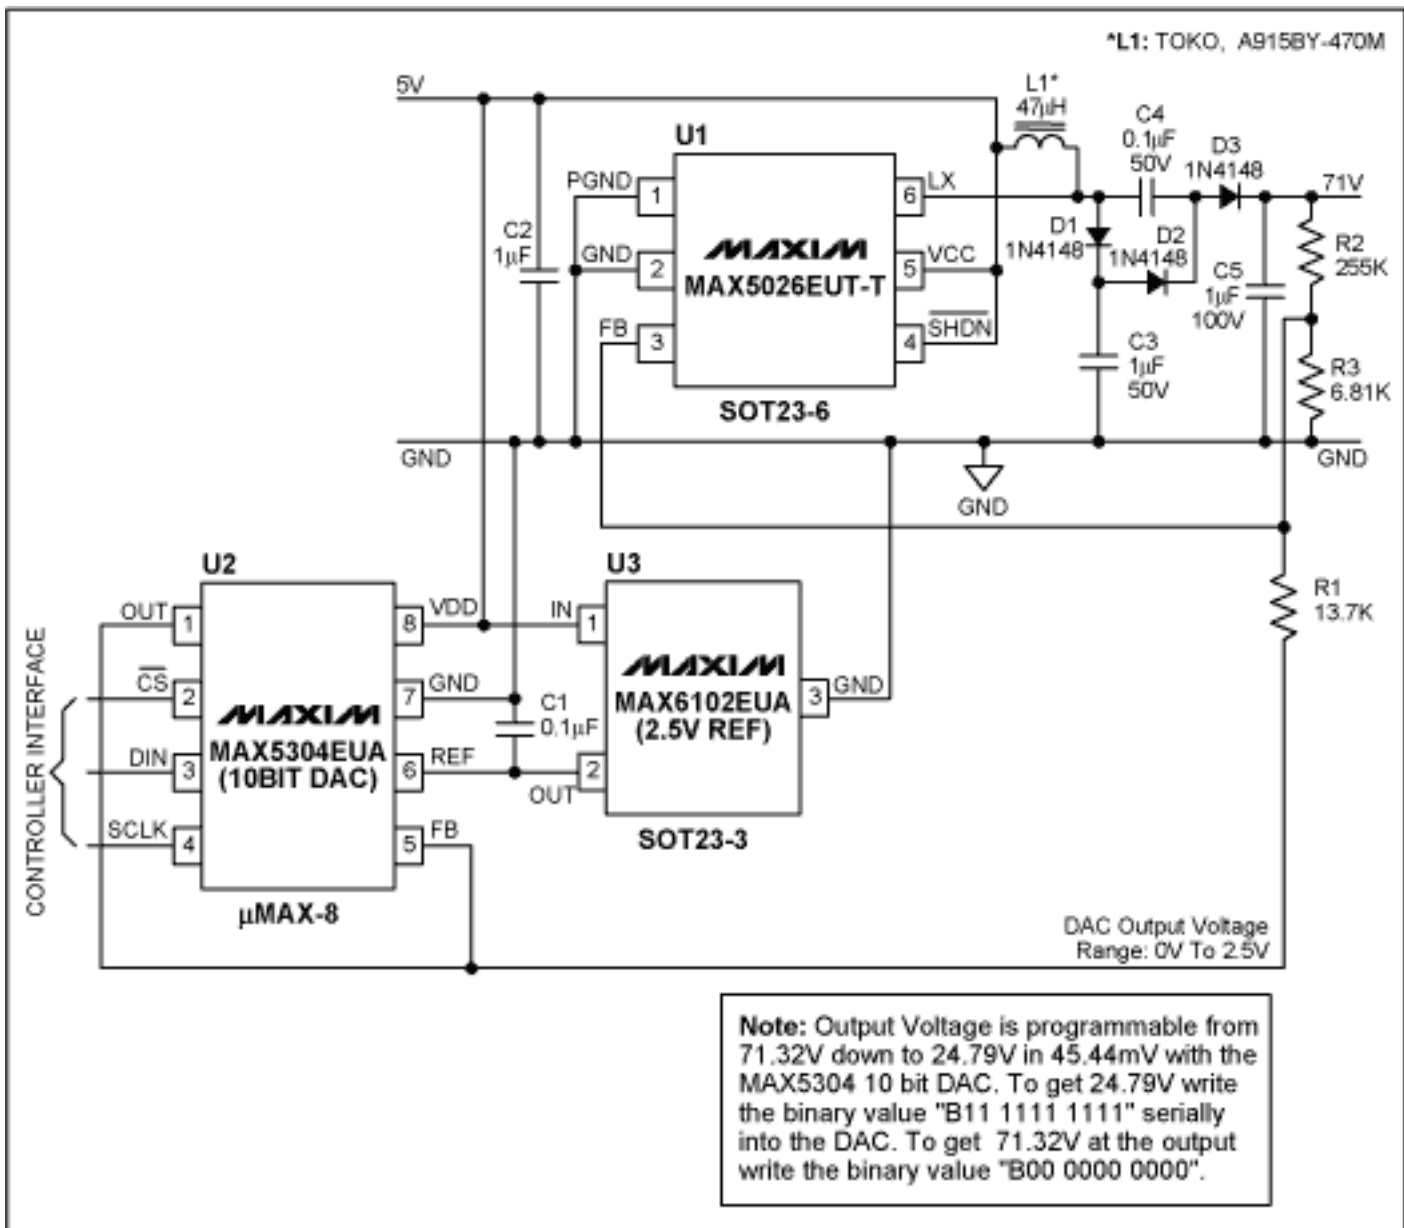

Figure 7. Low-noise APD bias power supply. Output voltage is digitally programmable from 24V to 71V in steps of 45mV.
**Figure 7** shows how the output of the bias generator can be controlled in steps of approximately  $45mV$  from  $25V$  to  $71V$  by using the MAX5304 10-bit DAC and a  $2.5V$  reference.